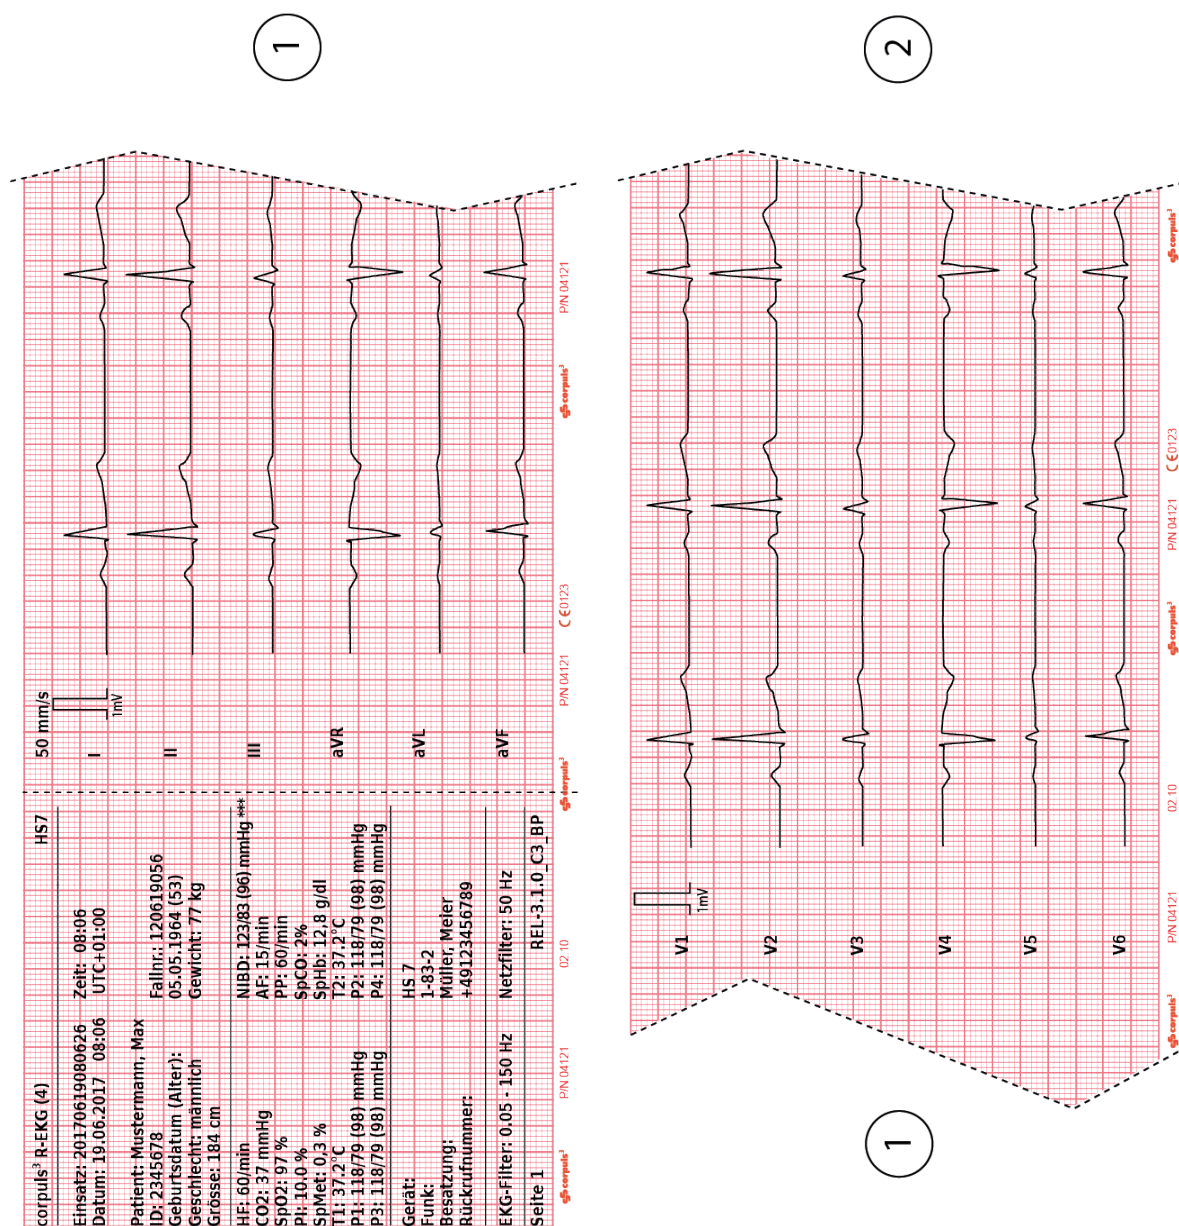

Fig. 6-12 Printout of 12-lead ECG (illustration may differ)
9. With the softkey [Print] the D-ECG is printed out for diagnosis (see Fig. 6-12 Printout of 12, page 116) and with the softkey [Send] it is sent.